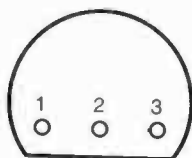

Fig. 18 Package of UM66, seen from below
- UM66 Melody generator (3, see Fig.18)
- CS209 Proximity detector (8)
- UM3561 Sound effects generator (8)
- 3915 Bargraph display, logarithmic (18)
- LM3909 LED flasher (8)
- 7760 Voltage converter (8)
- TDA8160 Infra-red remote receiver (8)